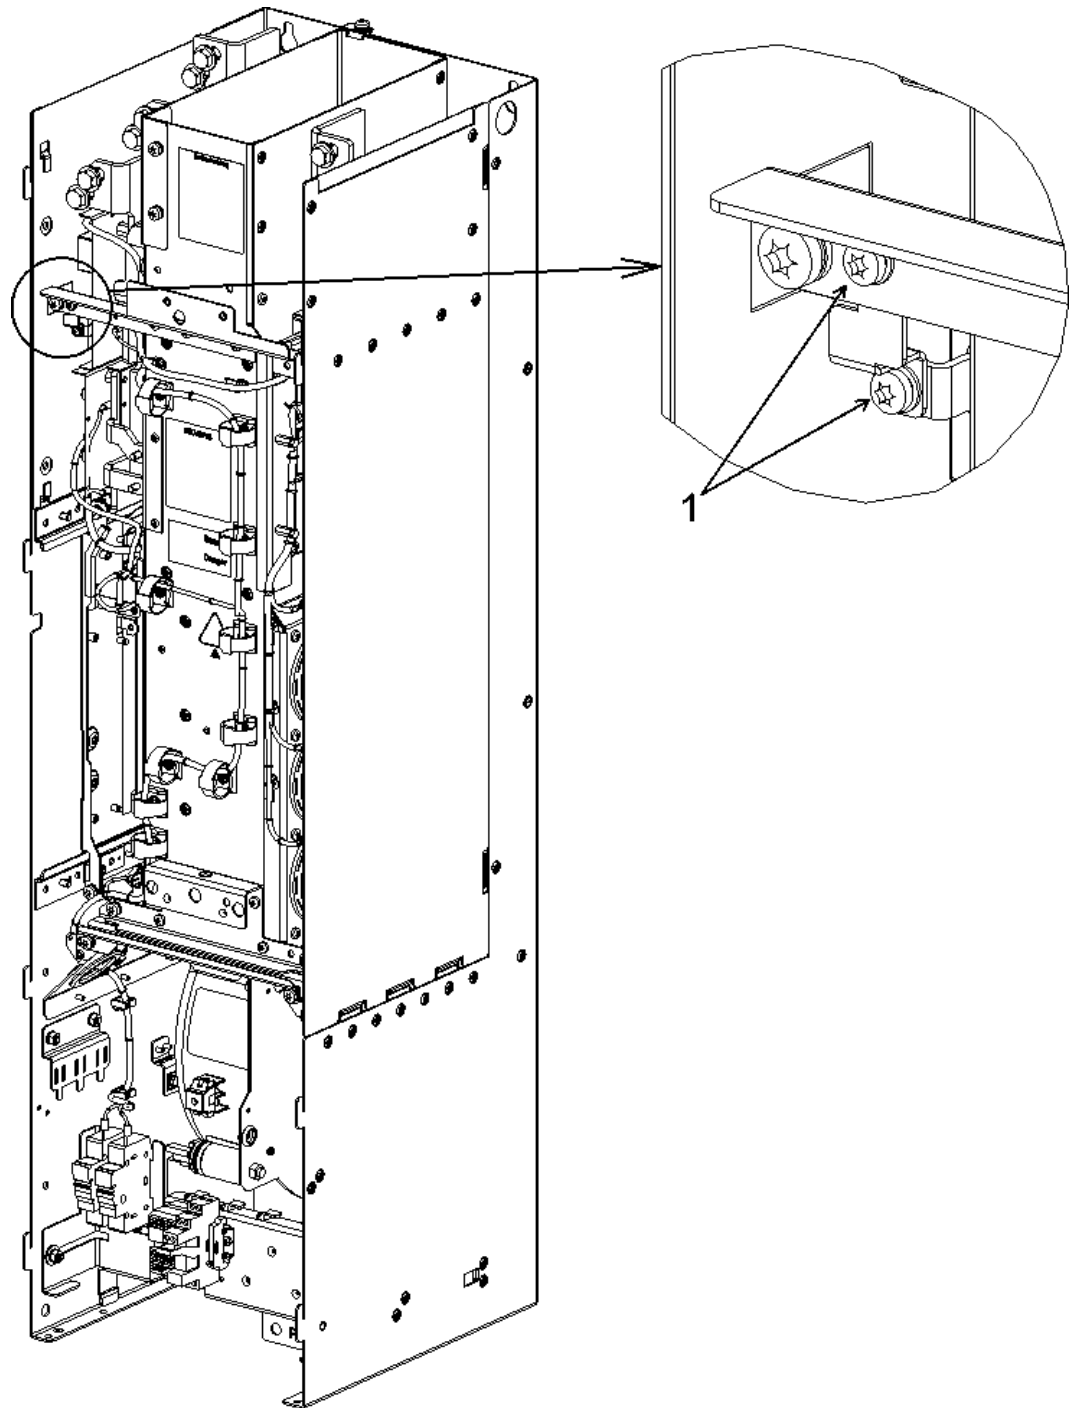

Fig. 3-7 Removing the connection bracket for the interference-suppression capacitor (here: type GB)
When the device is operated on an insulated network (IT), the connection bracket for the interference-suppression capacitor must be removed (e.g.: "1" in Fig. 3-7).